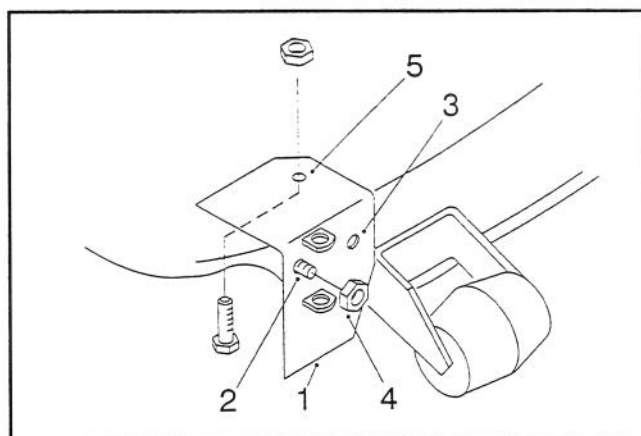

Figure 3
1. Slide the pivot support onto the threaded rod that is welded onto the front of the mower near the discharge opening (Fig. 3).
Note: The pivot support has one hole for mounting it to a 42" mower, and a different hole for the 48" mower (Fig. 3).
2. Screw the $\frac{3}{8}$ " deflector jam nut (Fig. 3) onto the threaded rod until the nut is flush with the end of the rod.
4. Drill an $11/32$ " diameter hole in the mower, using the hole in the top of the pivot support as a template (Fig. 3). Remove the clamp after you drill the hole.